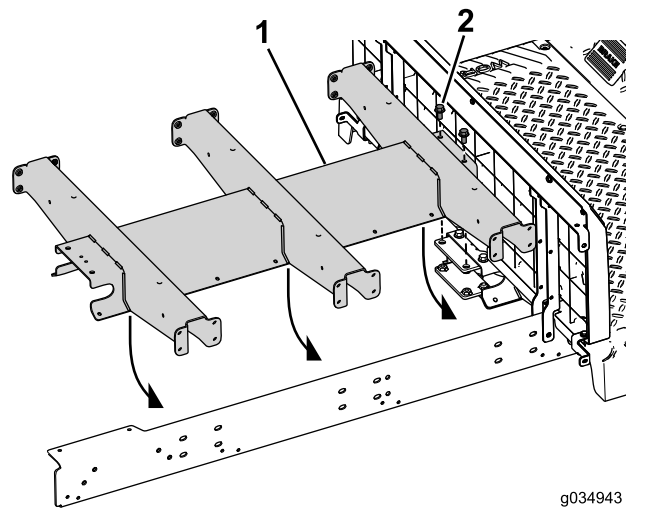

Figure 73
4. Insert the 2 bolts (3/8 x 3-3/4 inches) and washers through the center channel and rear mount (Figure 73).